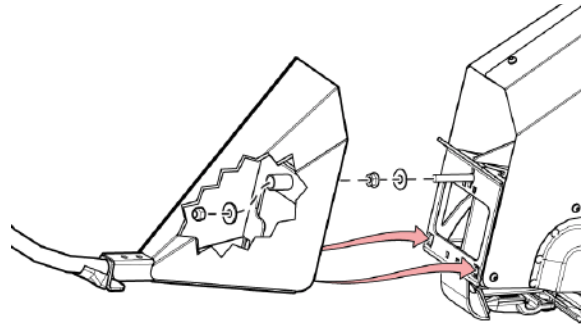

Fig. 39 - Install Crop Divider
Ensure the crop dividers are properly installed & free from material buildup. (See Fig. 39 on page 38)
- ☐ Ensure the crop dividers are properly installed & free from material buildup. (See Fig. 39 on page 38)